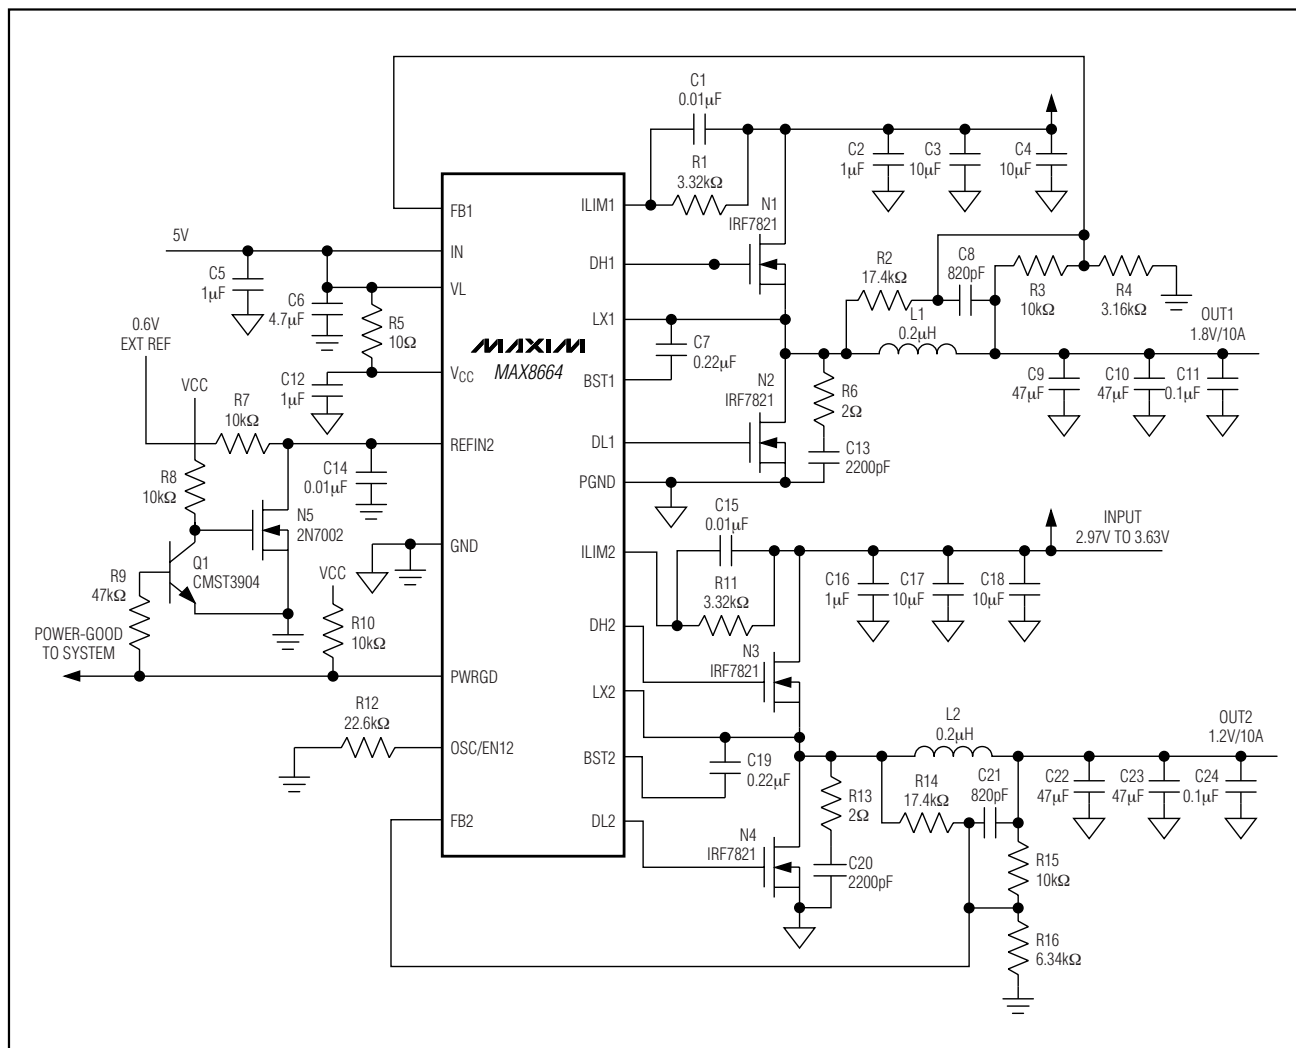

Figure 4. 1MHz Application Circuit with All Ceramic Capacitors and Sequenced Outputs
**Table 4. Component List for Figure 4**